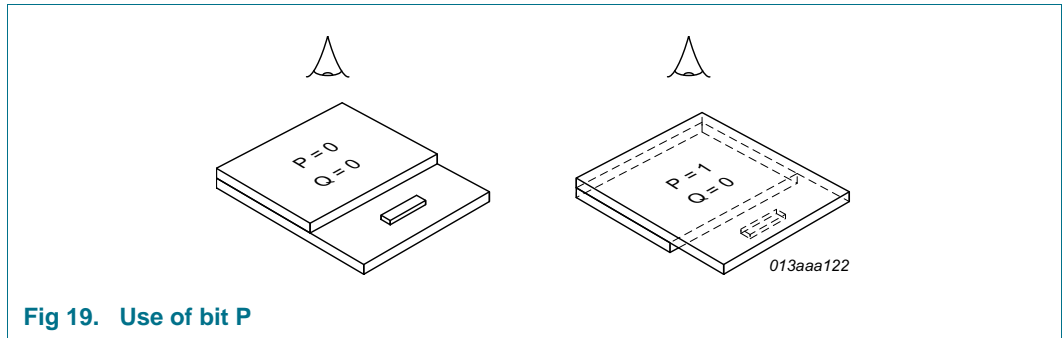

Fig 19. Use of bit P
**Bit P:** The P bit is used to flip the display left to right by mirroring the column data, as shown in Figure 19. This allows the display to be viewed from behind instead of front and enhances the flexibility in the assembly of equipment and avoids complicated data manipulation within the controller.